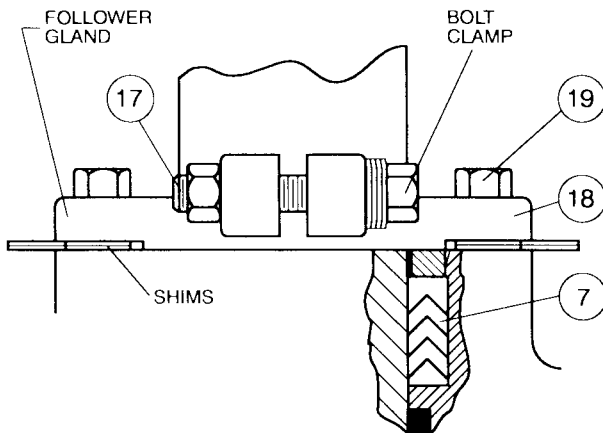

FIGURE 9. FRICTION ADJUSTMENT
DIRECT NUT FRICTION ADJUSTMENT: As shown in Figure 9, valves with direct nut actuators have a flanged packing follower (18) above the packing (7) to hold the valve in the open or closed position. If the valve is difficult to operate, or does not maintain its set position, adjust the clamp bolt (17) to provide sufficient friction to hold the valve in position. If the valve is equipped with a hand lever, the setting should allow the valve to be operated with about 80 pounds of force on the end of the pipe handle.
NOTE: If packing assembly contains clamp style follower as shown in Figure 9, do not lubricate shaft or sleeve.